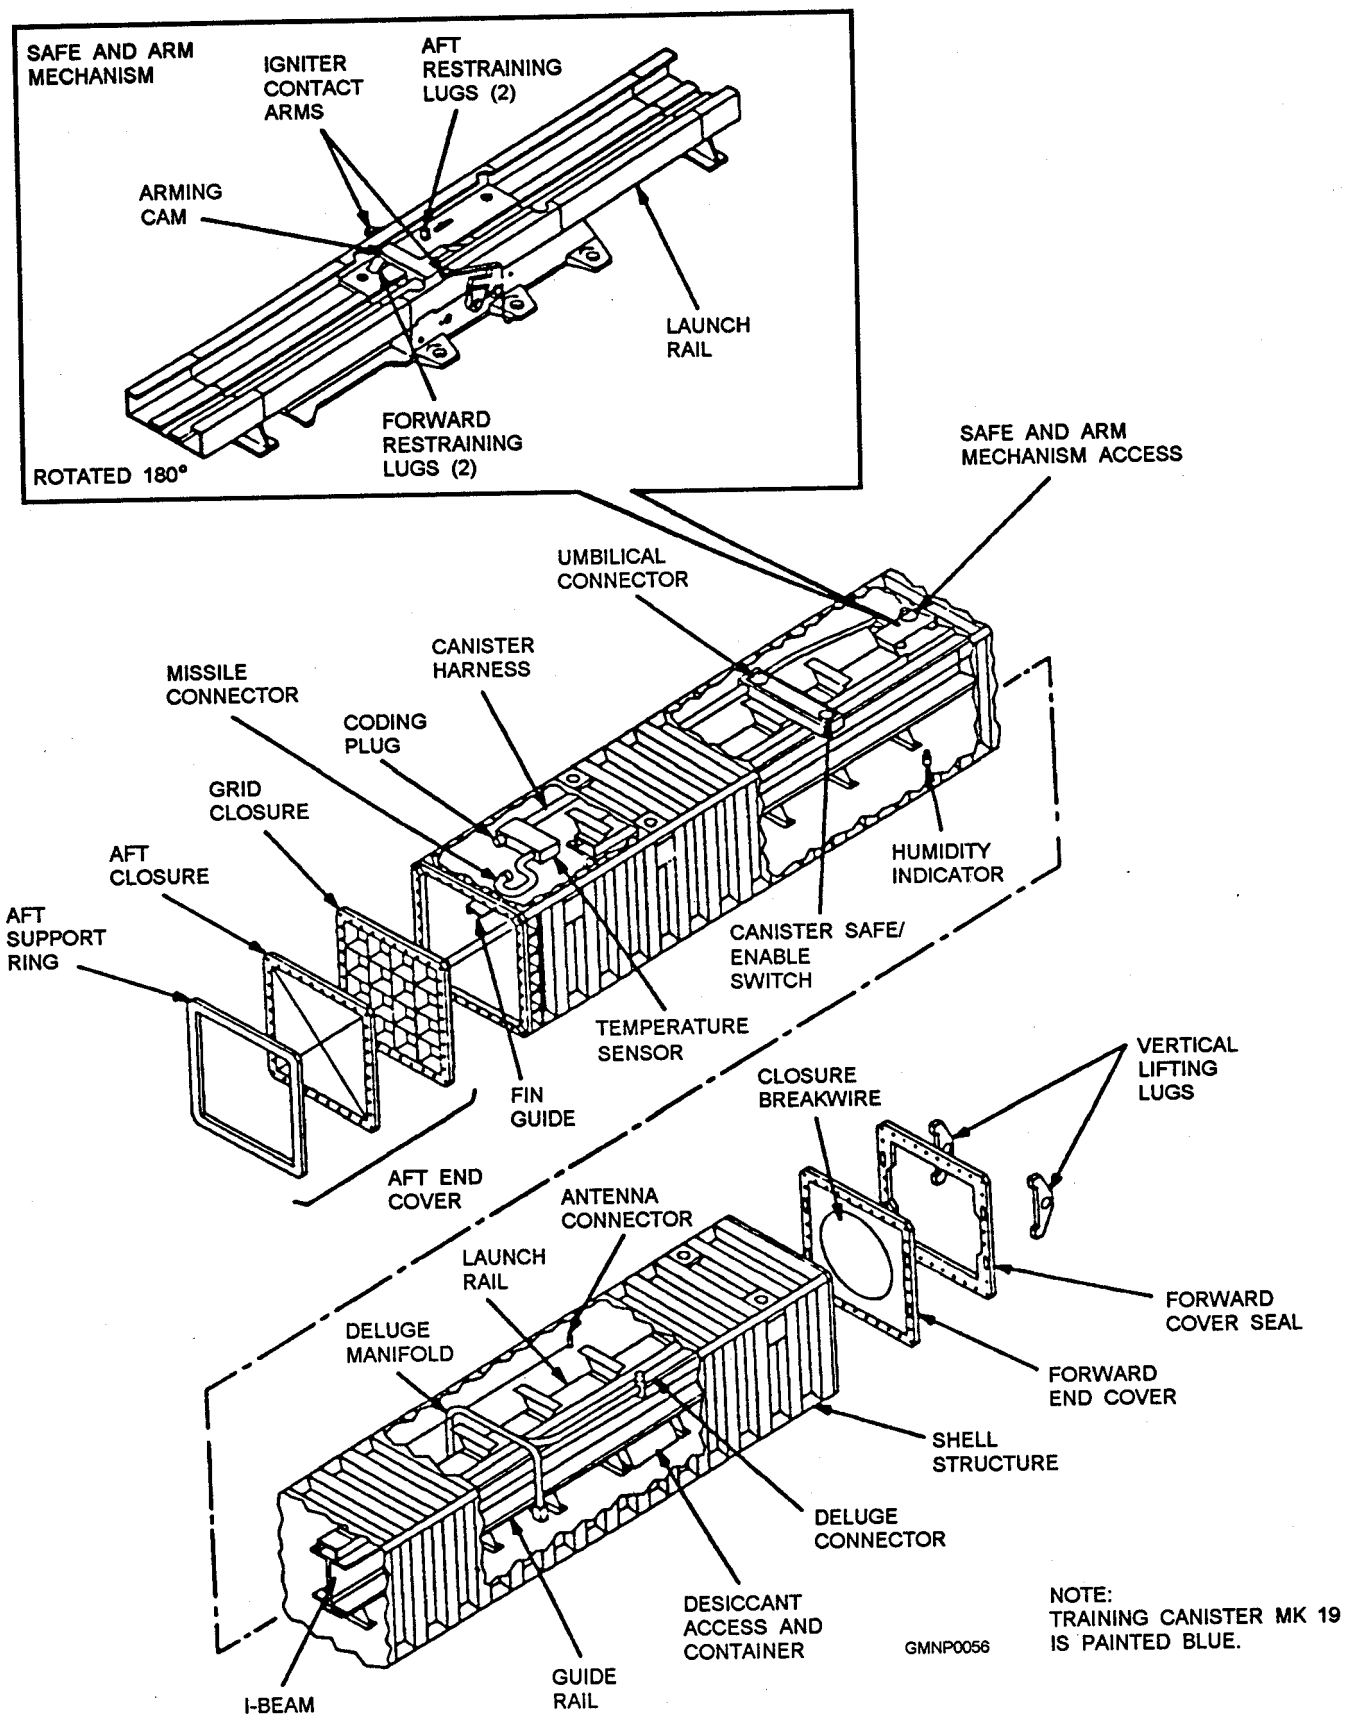

Figure 2-41.—Mk 19 Mod 0 canister.
**MK 19 MOD 0 VLS CANISTER**— The Mk 19 Mod 0 canister is used for missile strikedown training (fig. 2-41). The Mk 19 canister is painted blue, rather than the normal white, and stenciled with the word "TRAINING." The canister contains a weighted and balanced beam to simulate a Mk 13 Mod 0 canister. One canister is carried onboard all VLS ships.